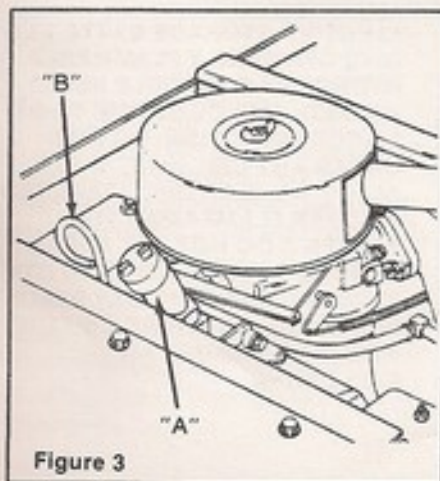

Figure 3
1. Check for proper level of engine oil. Fill crankcase through fill opening (A). The oil level is indicated by marks on the dipstick (B), Figure 3.